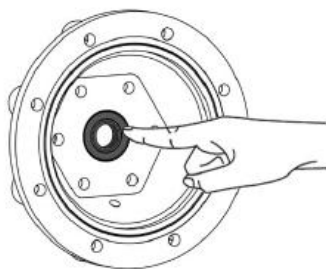

Figure 12
- ◆ Remove the transition section, save the push rod, spring and bolt, pry out the oil seal in the middle of the transition section, and then install the new oil seal (See figure 12).